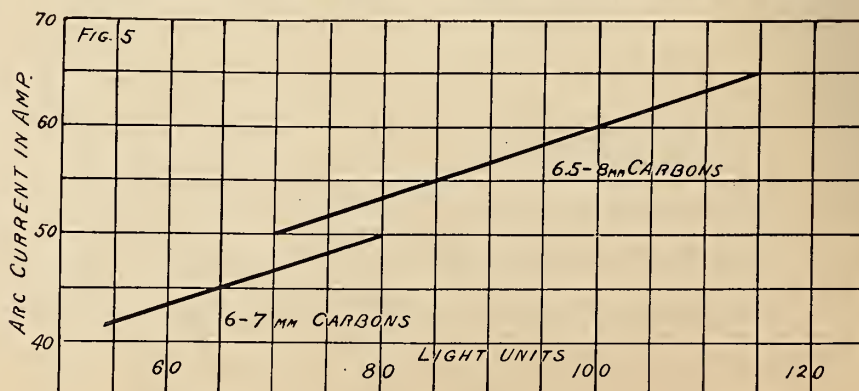

FIGURE 4. Variation of light intensity with arc current
(6) To determine the change of light intensity for various values of current through the arc, the same optical system and the same measuring instruments were used throughout, and all tests were made with the shutter running. The results are therefore comparative, and are not computed in lumens per square foot (Fig. 4).